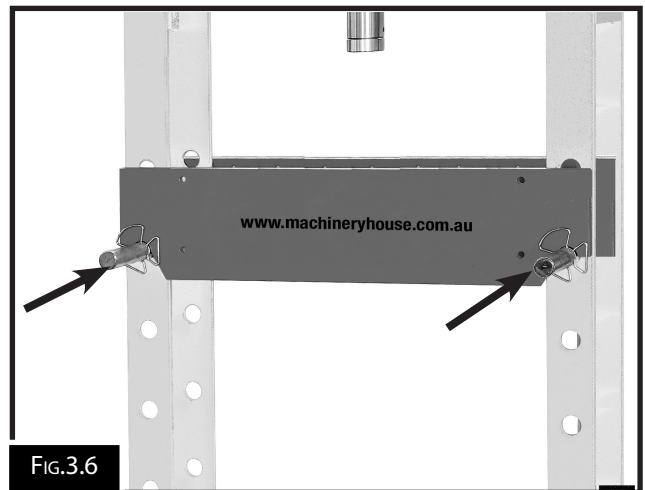

FIG.3.6
7. Insert the bed support pins into the holes in the side support at a height of your choosing. Then lower the bed frame onto the pins. (Fig.3.6)